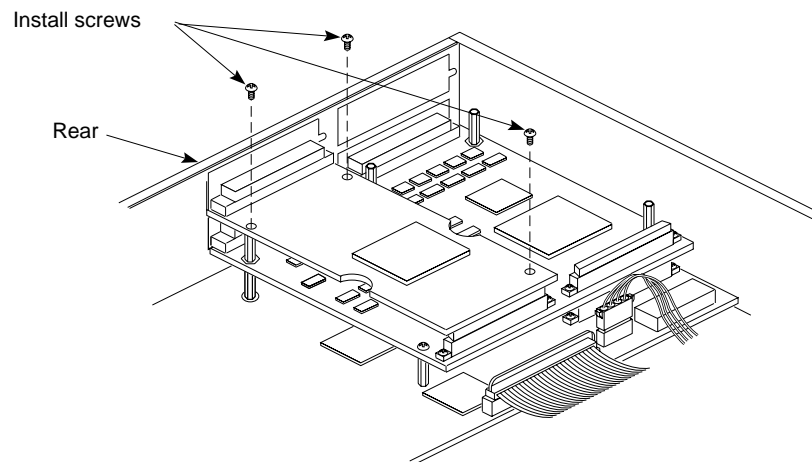

Figure 5-4 Installing a Single-Width GIO Option Board
- Align the screw holes on the GIO option board over the vacant standoffs (tall, hexagonal posts), as shown in Figure 5-4.
- Using a Phillips screwdriver, insert and tighten the three screws (provided with the board) to secure the GIO option board, as shown in Figure 5-4. As you tighten the screws, alternate between them so that the board is connected evenly.